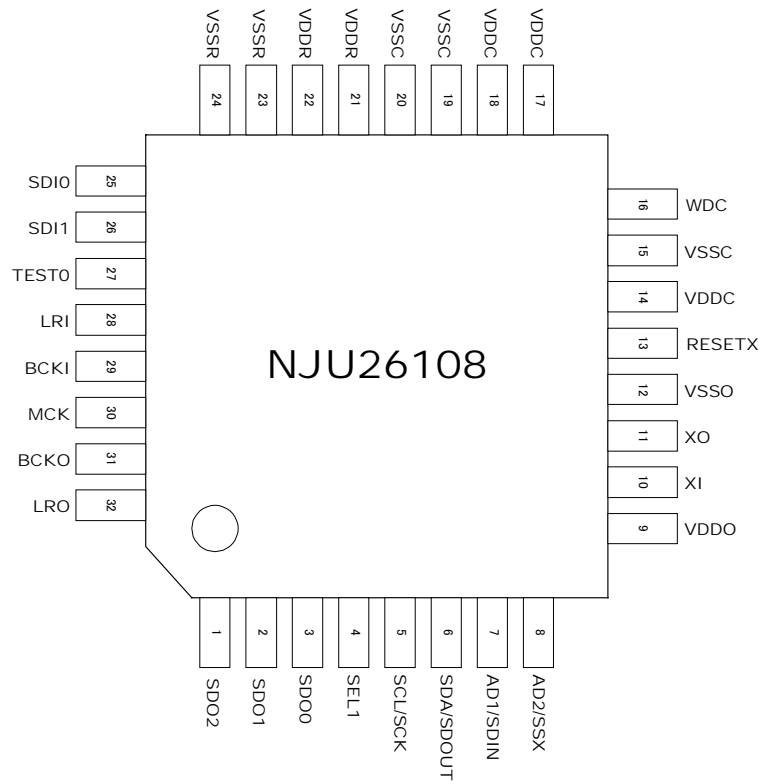

Fig. 3 NJU26108 Pin Configuration
* I : Input, O : Output, IO : Bi-directional, P : +Power, G : GND * Package is shown in fig. 3.